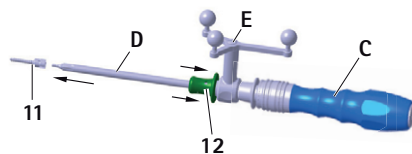

Fig. 9 Pick up the S⁴C screw with S⁴C screwdriver
- Retract and hold the holding sleeve 12 on the S⁴C screwdriver D, see Fig. 9.